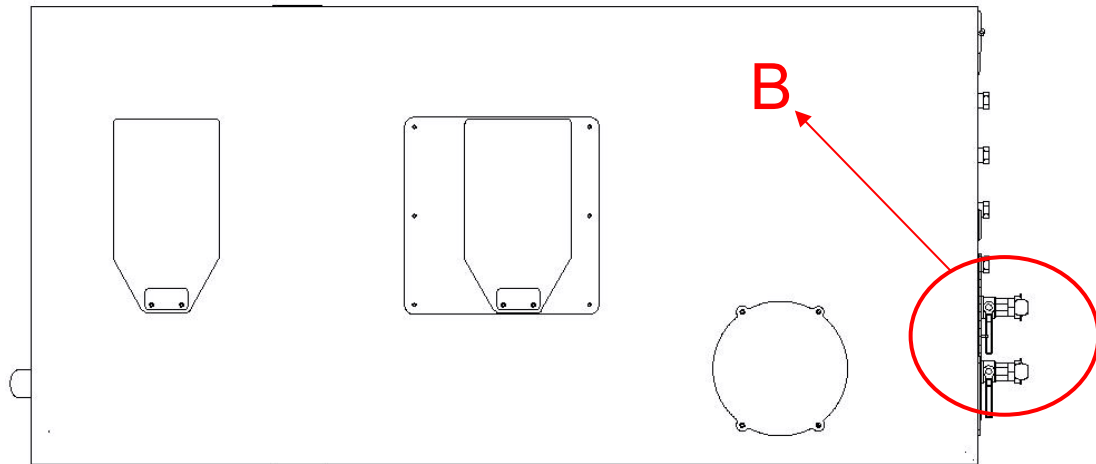

Figure 10.2-2 Location of the taps (top view)
- 1) Completely close the taps (Letter B - Figure 10.2-2).
- 2) Press the red stop button (C) the compressor will act to depressurize the machine until the pressure of the gauge reaches a value of 3.5 bar before stopping.